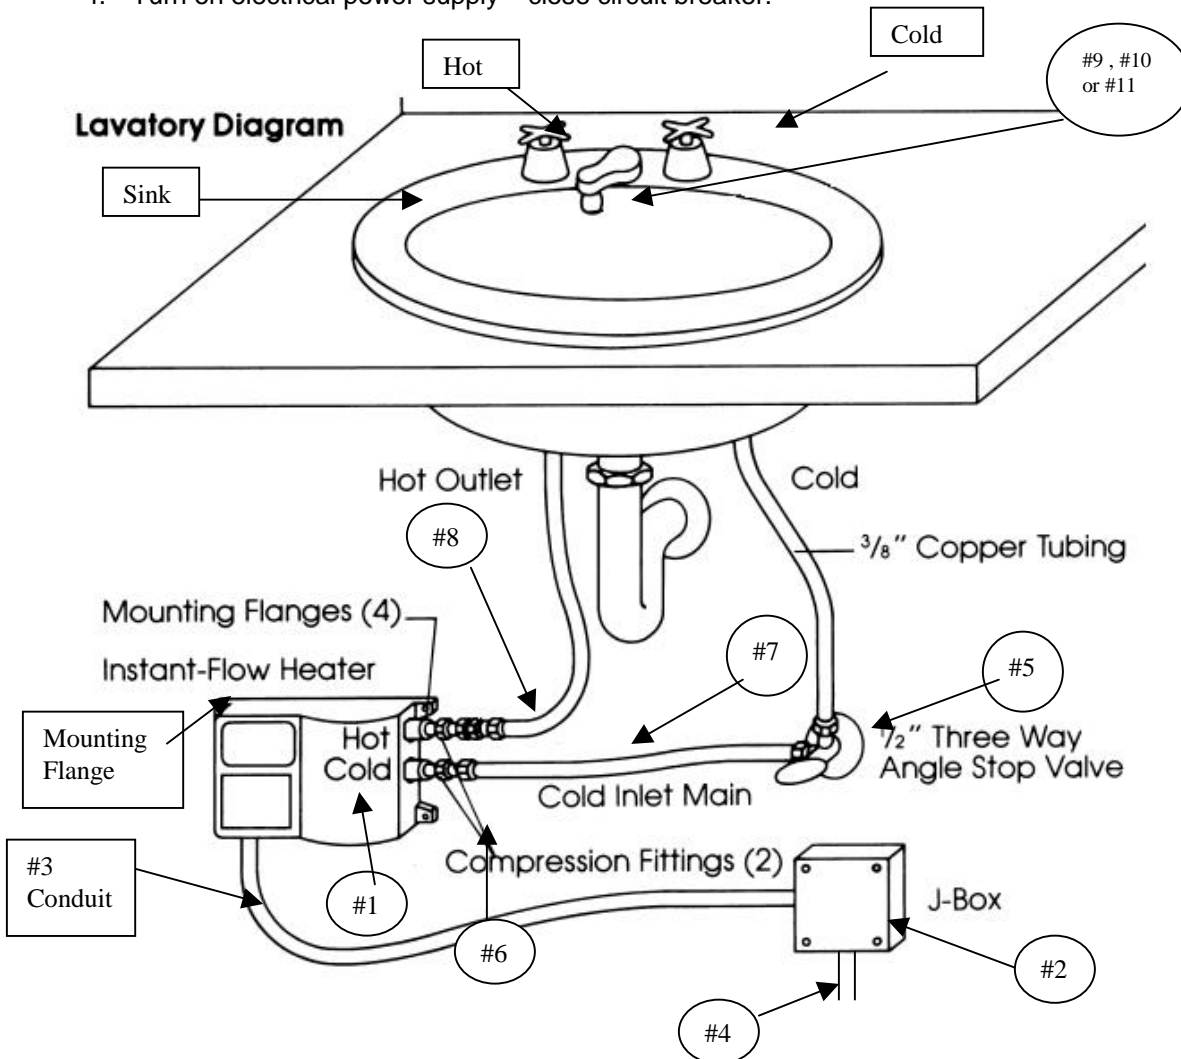

FIGURE 1 HEATER INSTALLATION
2. Mount unit horizontally against the wall so the silver label reads correctly (See Fig. 1). Mount with four screws through the flanges located on each corner using molly anchors or fasteners.
3. Connect plumbing. Use 1/4" tapered national pipe thread at cold water inlet and hot water outlet (See Fig. 1). Use compression fittings supplied for ease of installation. Do not apply heat to these fittings.